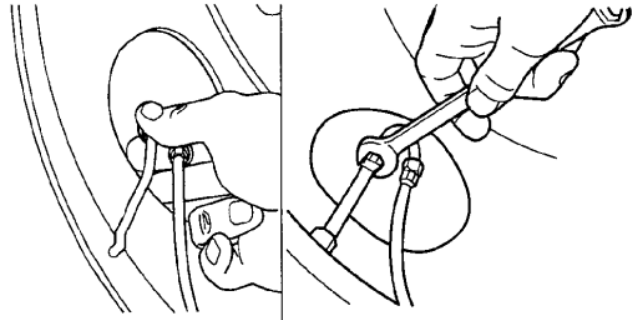

Figure 7: Attaching tire hoses to tire valve stem
4. Tighten the tire hose / valve stem connection finger tight (Figure 7).
5. Using a 7/16” wrench, tighten the tire hose / valve stem connection an additional on-half turn (Figure 7). DO NOT overtighten this connection.